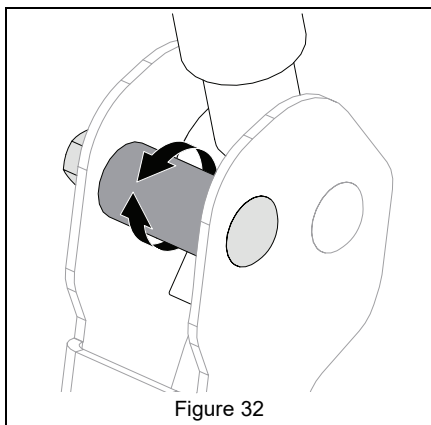

Figure 32
5. Turn eccentric spacer so levers are at the same height and have a 1.3 cm – 2.5 cm (1/2" – 1") gap between lever ends. See Figure 32.